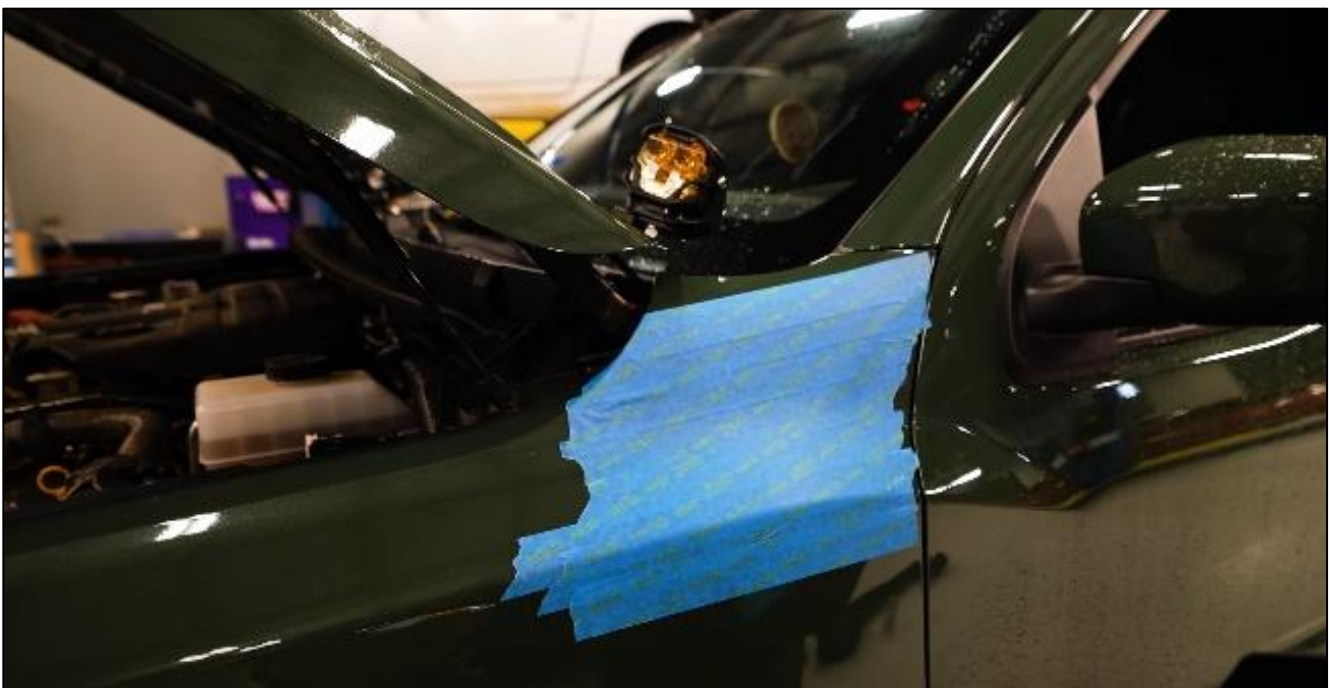

Figure 4
- Using Painters Tape, tape over the section of the Driver's Side Fender where you will cut. Use enough tape to cover the entire area where the Locating Template will sit. *Figure 4*.